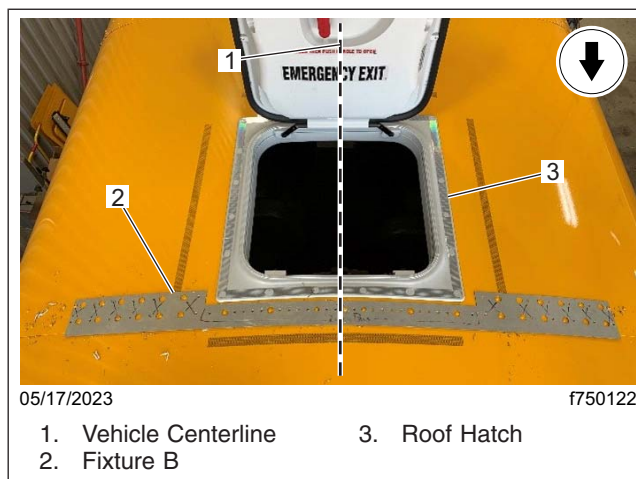

Fig. 18, Roof Hatch Joint Repair
25. Fixture B and fixture C are used to repair roof joints that have a roof hatch, as shown in Fig. 18. Depending on the number of rivets at the centerline of the vehicle roof, the appropriate fixture is determined.
26. Position the appropriate fixture over the center rivet(s) of the roof joint on the vehicle. See Fig. 18.